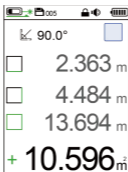

Figure 5 Second measured area
Step 3: Repeat step 1 to measure the second area, and the result is shown in Figure 5;